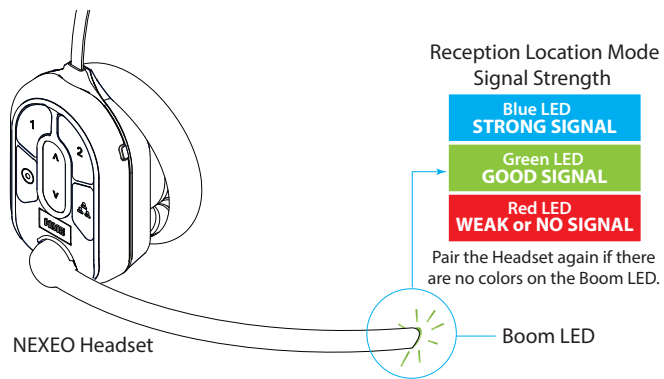

Fig. 2.2
- 10 **Critical Step:** The Installation Wizard will prompt you to use a paired headset switched to Reception Location Mode. You will need to walk all areas of the store where the headset will be used to ensure a good signal. The Boom LED at the tip of the Headset microphone flashes different colors to indicate areas with a strong or weak reception. See Fig. 2.2. Also see CAUTION Note in Step 5.